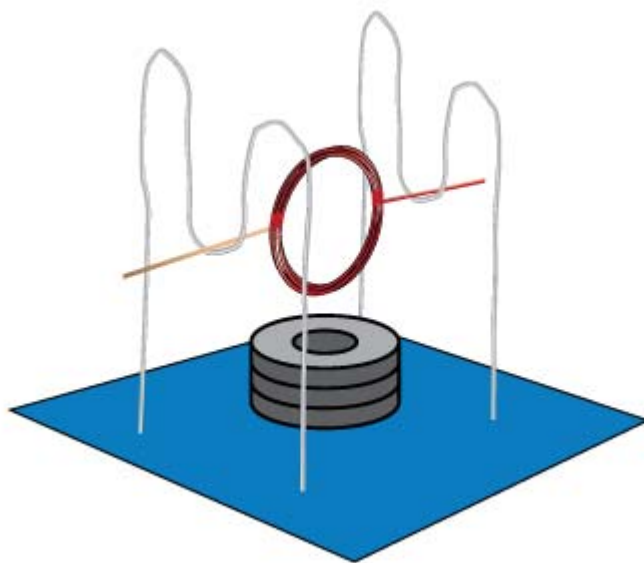

Figure 12: Motor design. Reference for Steps 10 - 12.
- Use masking tape to tape the paperclips to a piece of cardboard so that they stand 5 cm apart, vertically to the cardboard surface, and parallel to each other (Figure 12).
11. Suspend the wire coil between the paper clip support by placing the tails of the coil in the paper clip supports (Figure 12).
12. Place three ring magnets under the coil. Making sure the coil does not touch the magnets when positioned vertically (Figure 12).